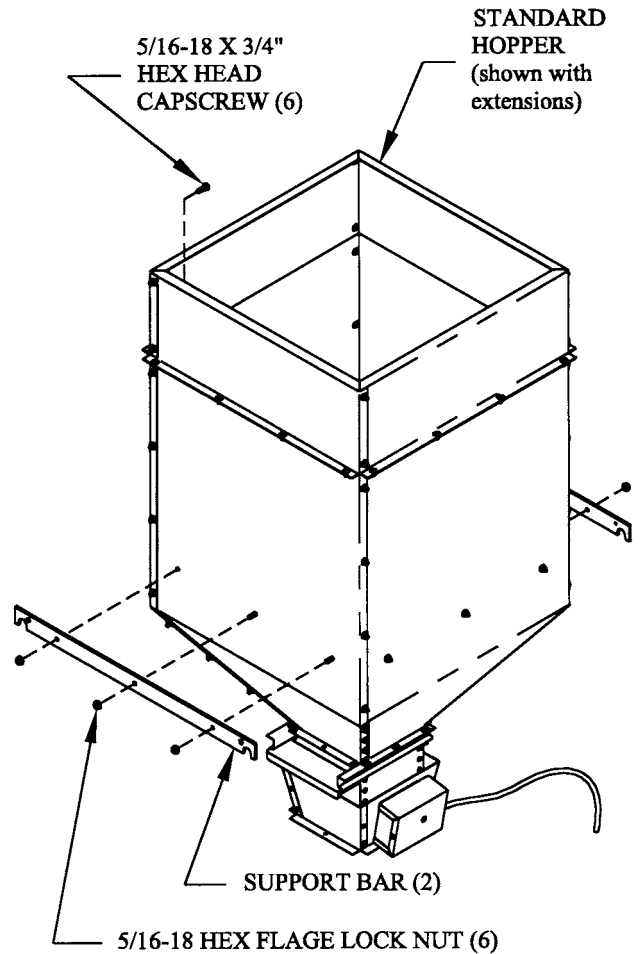
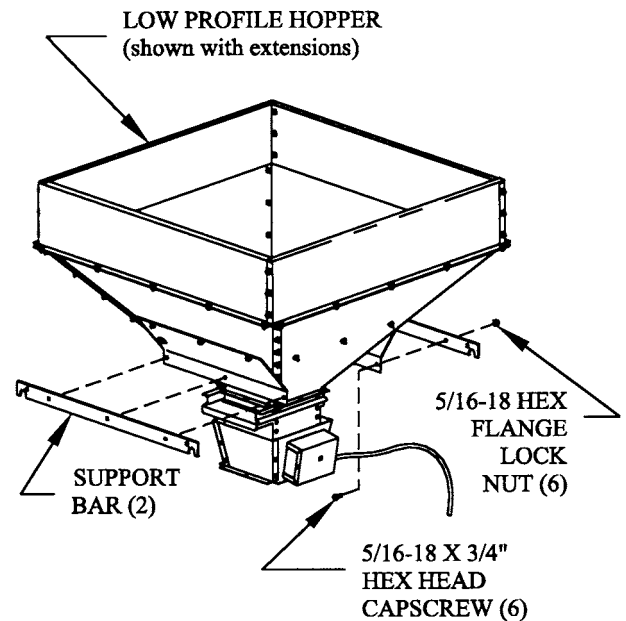

FIG. 15
FIG. 16
STEP 12. Attach the galvanized hopper support bars (included with scale) to the hopper. See Fig. 15 (for standard hopper) or Fig. 16 (for low profile hopper). If you've chosen to use a hopper other than one of Spink's models, you may have to mark and drill holes using the dimensions of the hole spacing on the support bars. If so, drill 11/32" holes after carefully making **exact** markings so that the support bars will fit in the same place (top to bottom as well as side to side) on either side of the hopper. This is important to insure that the hopper will be level.